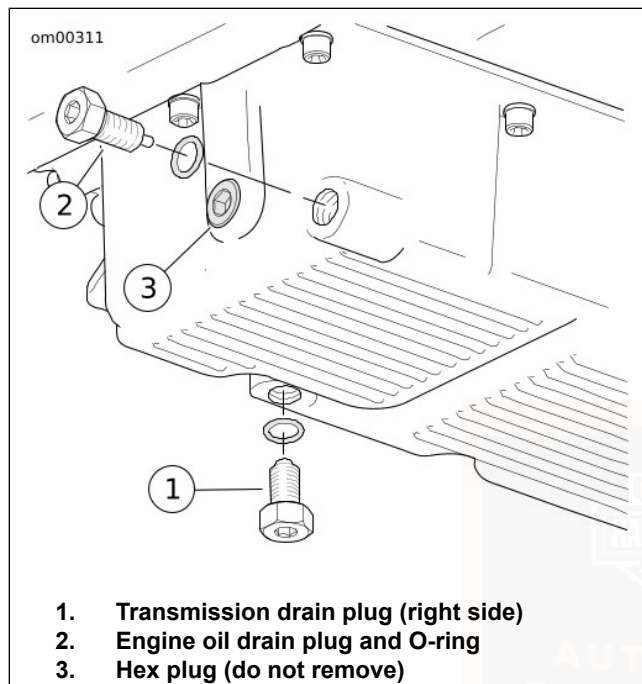

Figure 40. Oil Pan
3. See Figure 40. Remove the oil drain plug (2). Do not remove hex plug (3) or transmission drain plug (1). Allow oil to drain completely.